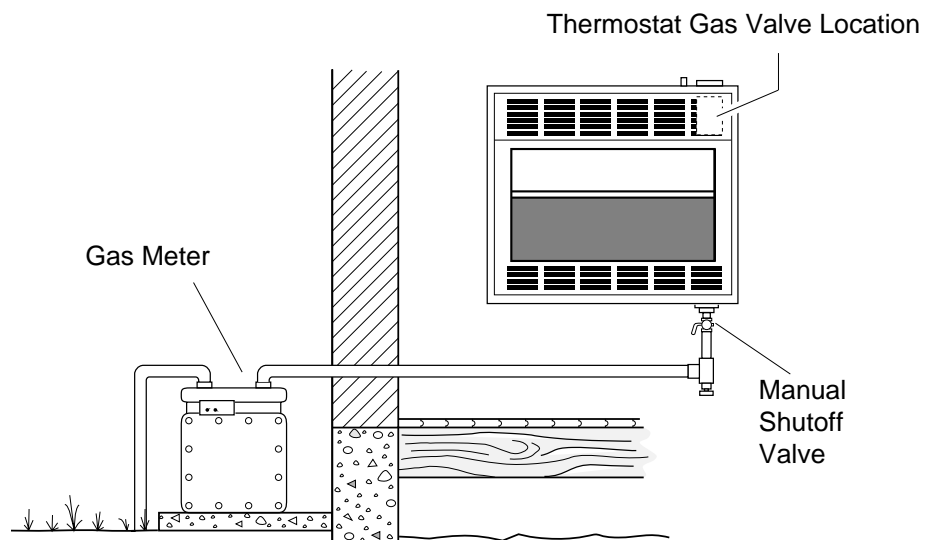

Figure 22 - Checking Gas Joints
4. Check all joints from manual shutoff valve to thermostat gas valve (see Figure 22). Apply mixture of liquid soap and water to gas joints. Bubbles forming show a leak.